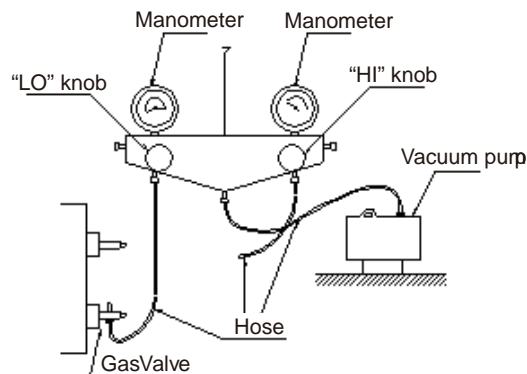

Fig.8
- 3) As shown in the following figure (Fig.8), expel the gas inside the indoor unit and refrigerant pipe out by the vacuum pump. (2 purposes of outdoor unit's main valve: 1. vacuum pumping 2. Control the on /off of outdoor unit refrigerant)